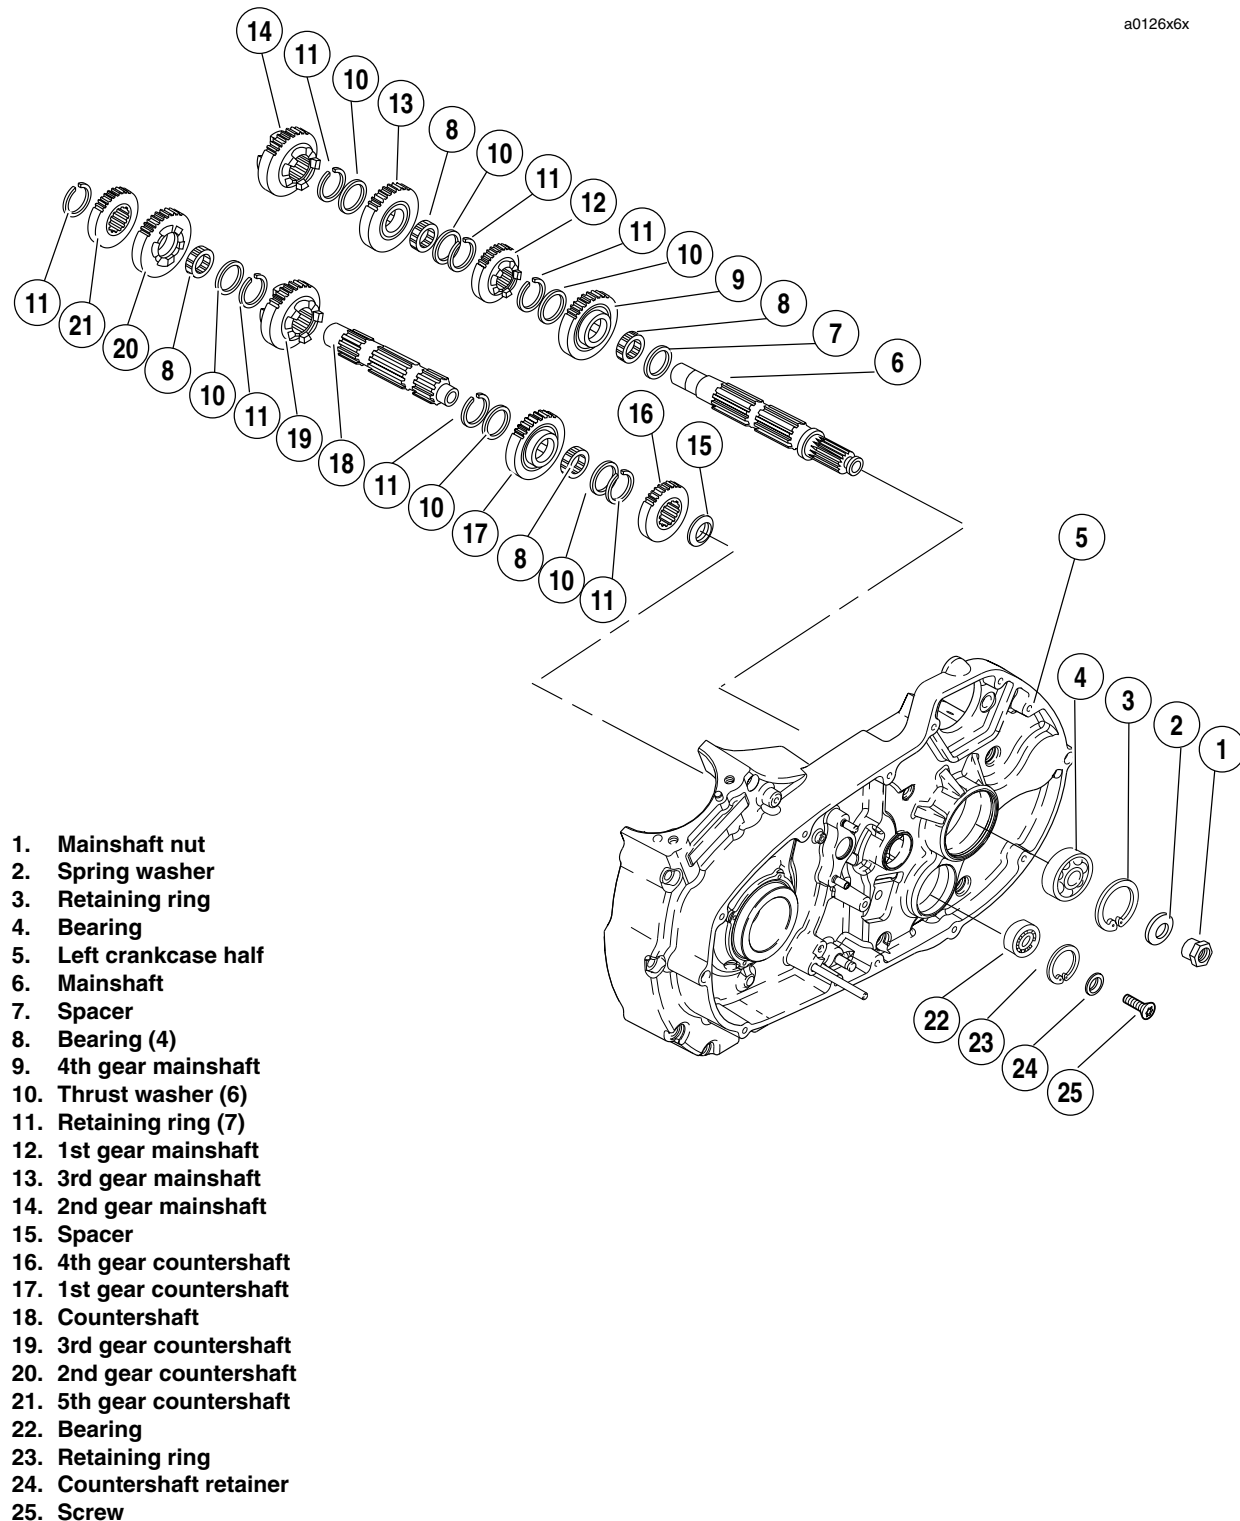

Figure 6-34. Transmission Assembly Left Crankcase Half
**During assembly, the split bearings (8) and the internal bores of the gears must be lubricated with SPORT-TRANS FLUID prior to assembly. Leaving these parts dry could accelerate wear at start-up.**
1. See Figure 6-34. Install **new** retaining ring (11) and thrust washer (10) onto mainshaft (6) in the first ring groove from the end.
2. Install split bearing (8) onto mainshaft.
3. Locate mainshaft 4th gear (9), which can be identified by the two radial grooves at one side. Slide gear (9) onto shaft. Position gear over bearing (8) next to spacer (7).
4. Place spacer (7) over mainshaft and position next to split bearing (8).
5. Slide mainshaft 1st gear (12) onto mainshaft with the fork groove facing 4th gear (9).
6. Install thrust washer (10) and new retaining ring (11) next to mainshaft 1st gear (12).
7. Install split bearing (8) onto mainshaft.
8. Install mainshaft 3rd gear (13) onto shaft over bearing (8).
9. Install thrust washer (10) and new retaining ring (11).
1. See Figure 6-34. Install new retaining ring (11) and thrust washer (10) onto countershaft (18) in the second ring groove from the end.
2. Install split bearing (8) onto countershaft.
3. Locate countershaft 1st gear (17), which can be identified by the two radial grooves at one side. Slide gear (17) onto shaft. Position gear over bearing (8).
4. Install thrust washer (10) and new retaining ring (11) next to gear (17).
5. Locate countershaft 4th gear (16). This flat, shoulderless gear is splined and has a single radial groove at one side. Position gear next to retaining ring (11) on countershaft. Place beveled washer (spacer) (15) over end of shaft with beveled side away from countershaft 4th gear (16).
6. Install countershaft 3rd gear (19) on countershaft with fork groove facing away from countershaft 1st gear (17).
7. Install new retaining ring (11) on countershaft. Position new retaining ring in the second ring groove from the end. Install thrust washer (10) next to retaining ring (11). Install split bearing (8) in seat next to washer (10).